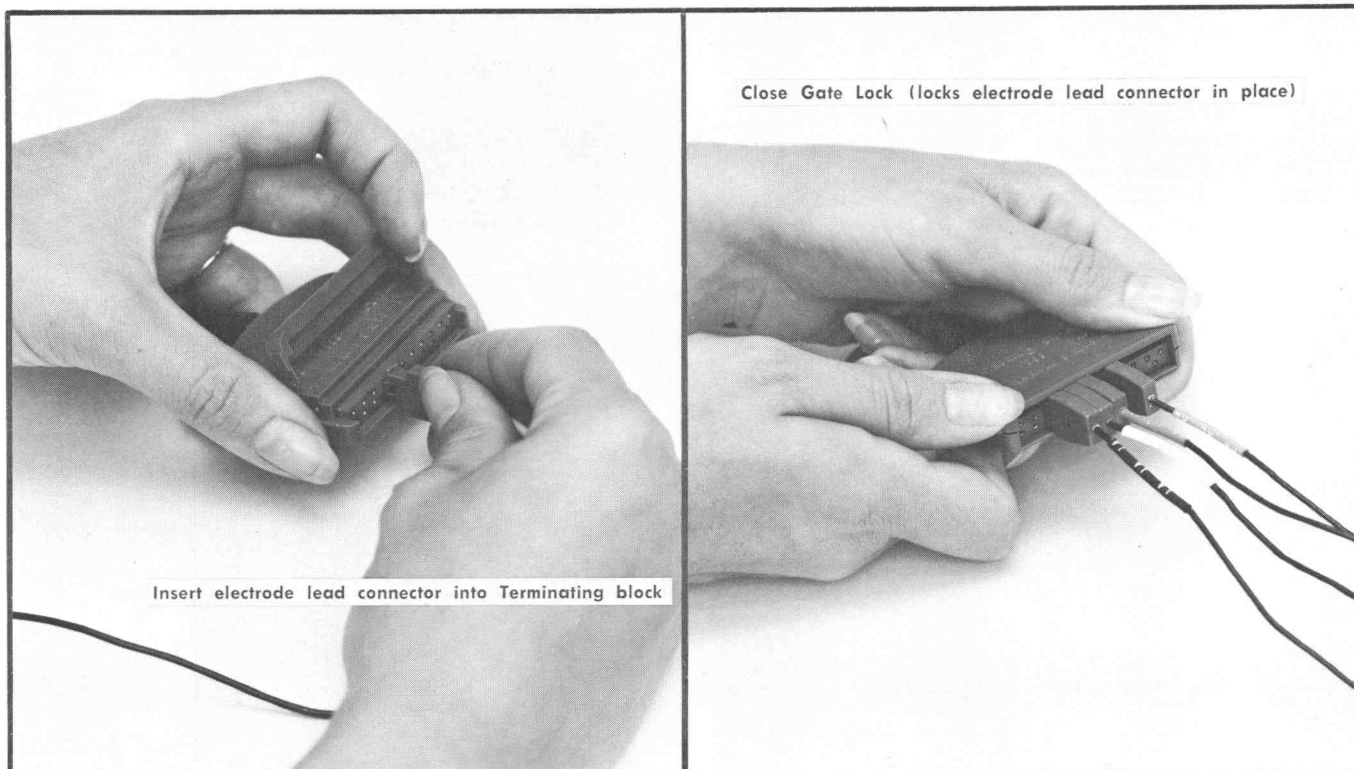

Fig. 2-12. Patient Cable Terminating Block and method of locking electrode connectors in place.
16. Connect an electrode to each arm, white (RA) to the right arm, black (LA) to the left arm and green (RL) to the right leg as shown in the Application instruction later in this section.
17. Connect the three leads to the Patient Cable terminating block. Fig. 2-12 shows the Patient Cable, terminating block and method of locking the electrode cable connectors to the terminating block. Further information on Patient Cable and terminating block follows the electrode placement chart later in this section.